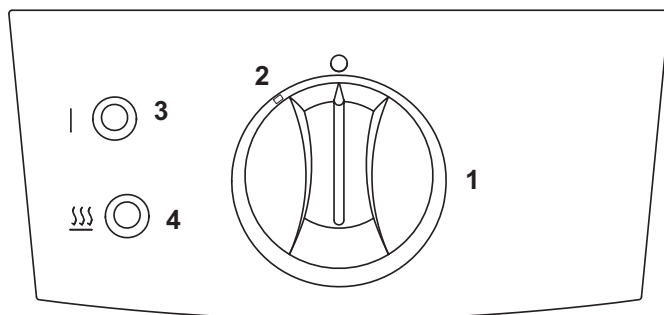

Figure 2 – G401F Control Panel
2.4.1 G401F Fryer Control Panel (See Figure 2)
5. Turn control knob to desired temperature (*140°C*) (*G401F only*) and heat demand indicator will illuminate (*Figure 2, item 4*).